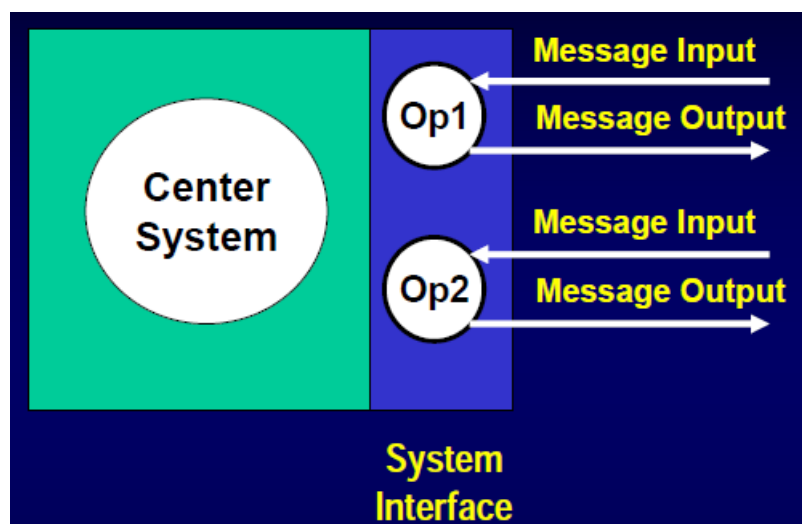

Figure 6: System Interface Operations
**System Interface (SI):** The *IEEE Standard Glossary of Software Engineering Terminology* (IEEE 610 Standard) defines an interface as a shared boundary across which information is passed. A shared boundary is integrated with the local system applications and termed as a *system interface*. Typically, an SI can be integrated with the Application Programming Interface (API) of the Advanced Traffic Management System (ATMS), allowing communication to and from the Transportation Management Center (TMC) or an application. We can see in Figure 6 how operation is conducted as input/output messages through a system interface built with the Traffic Management Data Dictionary (TMDD).